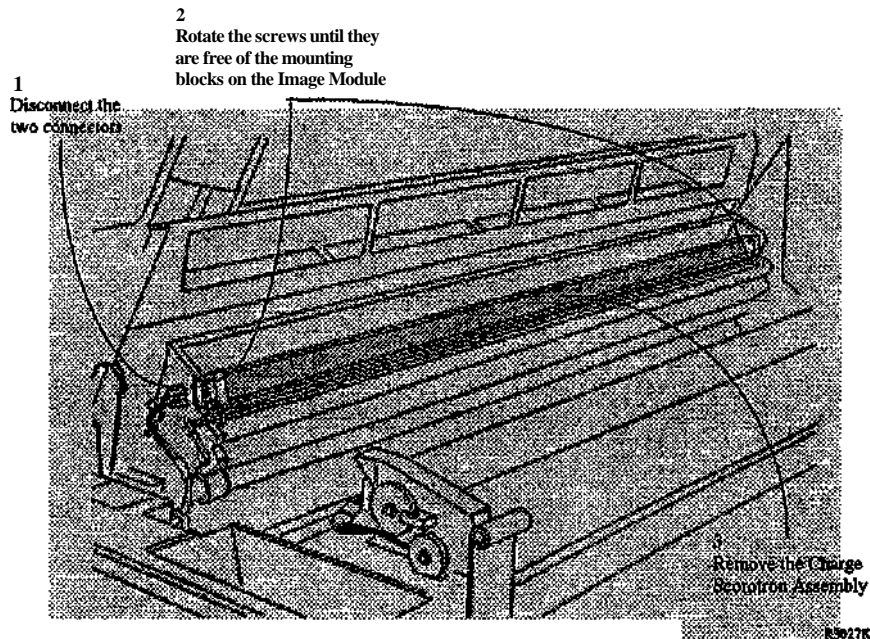

Figure 1. Removing the Charge Scorotron Assembly
4. (Figure 1): Remove the Charge Scorotron Assembly from the Printer and place it on a flat surface.